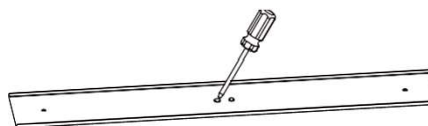

Figure 11
Step 2. Open top cover of the fixture, and remove the two knockout holes (Figure. 11)